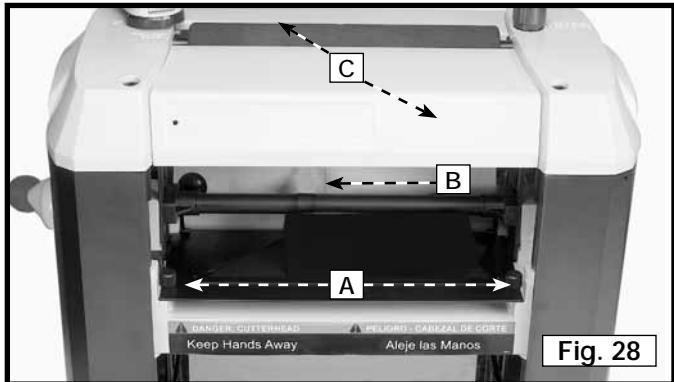

Fig. 28
1. Remove the two top covers (C) Fig. 28.
2. Raise the head assembly (B) to 4" (102 mm) on the "Scale and Pointer".
3. Remove the two screws (A) Fig. 28. Pull the cutterhead guard (B) straight out.